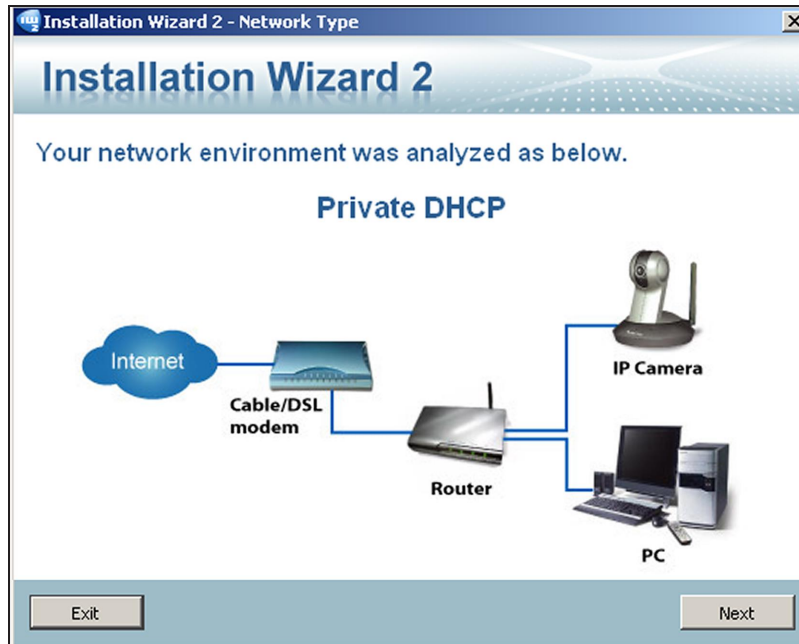

Figure 236 Sample detected network.
3. When the discovery completes, a graphic of the detected setup, similar to Figure 236, displays. Click **Next**.